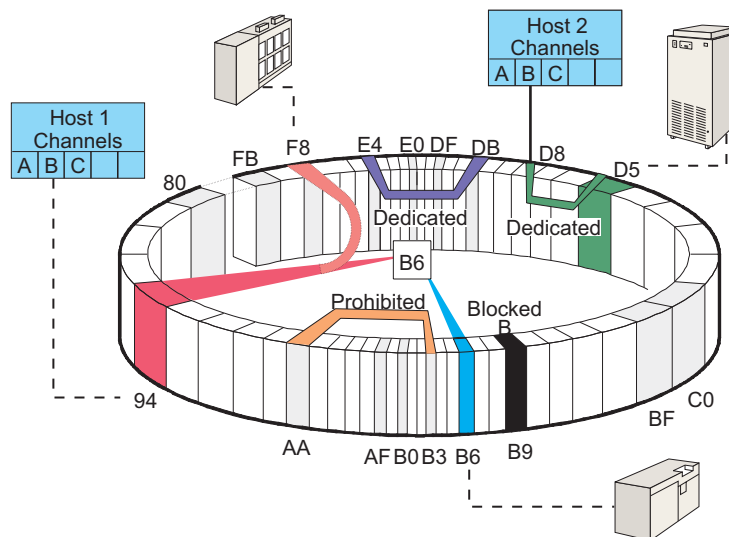

Figure 4. Performing Director Functions
Figure 4 shows how Director functions are performed. Host 1 is connected to a Director and illustrates the concept of dynamic connectivity. Host 2 is connected to the same Director and illustrates the concept of a dedicated connection and chained Directors.
- **Blocking** a port so that no communication takes place with the device externally connected to the port. In Figure 4, port *B9* is blocked. The port cannot communicate with any other Director port, and no other port (or connected device) can communicate with it.
- Establishing a **dedicated** connection between two Director ports so the ports communicate only with each other. Figure 4 shows a dedicated connection between ports *E4* and *DB*. These ports can communicate *only* with each other.
- **Prohibiting** a dynamic connection between two ports. In Figure 4, a connection between ports *AA* and *B3* is prohibited. Port *AA* can connect to any port except *B3*, and port *B3* can connect to any port except *AA*.